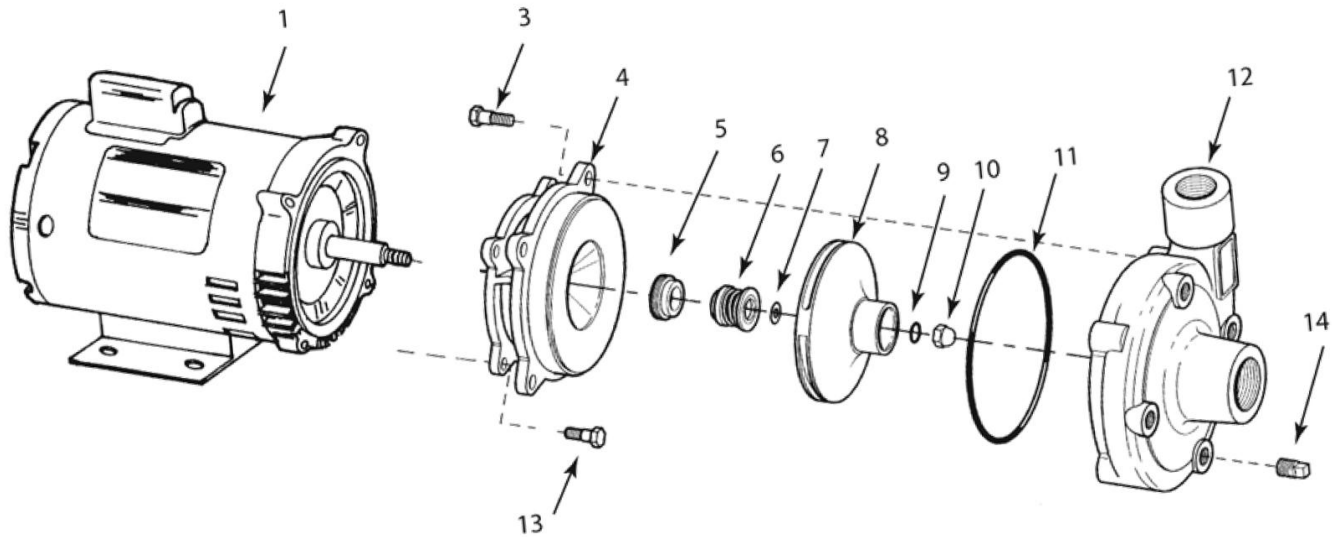

Figure 2 – Repair Parts Illustration
5. Wet the inside rubber portion of new seal head with a light coating of soapy water. Slide head onto motor shaft with sealing surface facing seal seat (see figure 2).